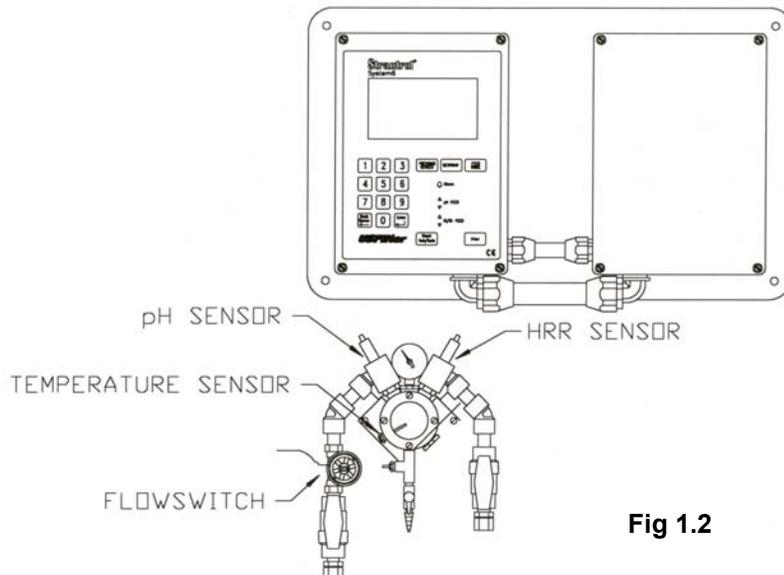

Fig 1.2
- Mount the flowcell next to the controller and run tubing from the flowcell to the sampling point (after filter, before heater) and discharge (before recirculation pump) of the recirculation system. (Fig 1.2)